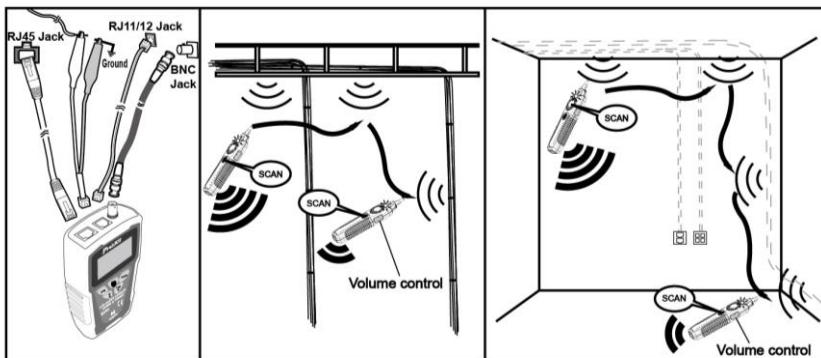

Figure 8 Locating cables
To locate cables, do the following steps (Figure 8) :
1. Please connect tested cable with MT-7071 properly, as figure 8. If you want to test single conductor / twin conductor cable , please select 「Tel」 cable type then plug the alligator clip patch cord into RJ11 jack.
4. As figure 8 shows, slide the "switch" of receiver to SCAN or LED position, then push **SCAN** on receiver to operate cable tracing function. The tracing sound will be output from speaker. When put on earphone, there will be no sound from speaker, but from the earphone.